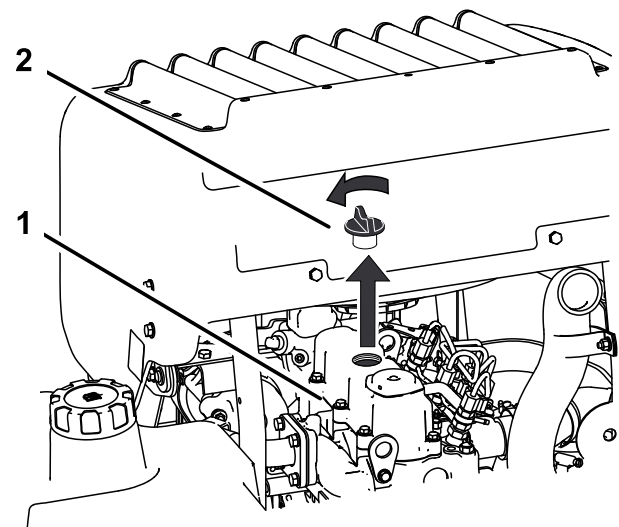

Figure 45
6. Remove the oil filler cap from the top of the engine (Figure 45). This will help the oil to drain.
2. Remove the oil filler cap and the dipstick (Figure 45).